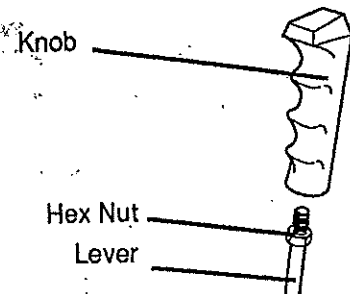

FIG. 6-ASSY
- Thread the hex nut onto the threaded end of the lever. SEE FIG. 6-ASSY.